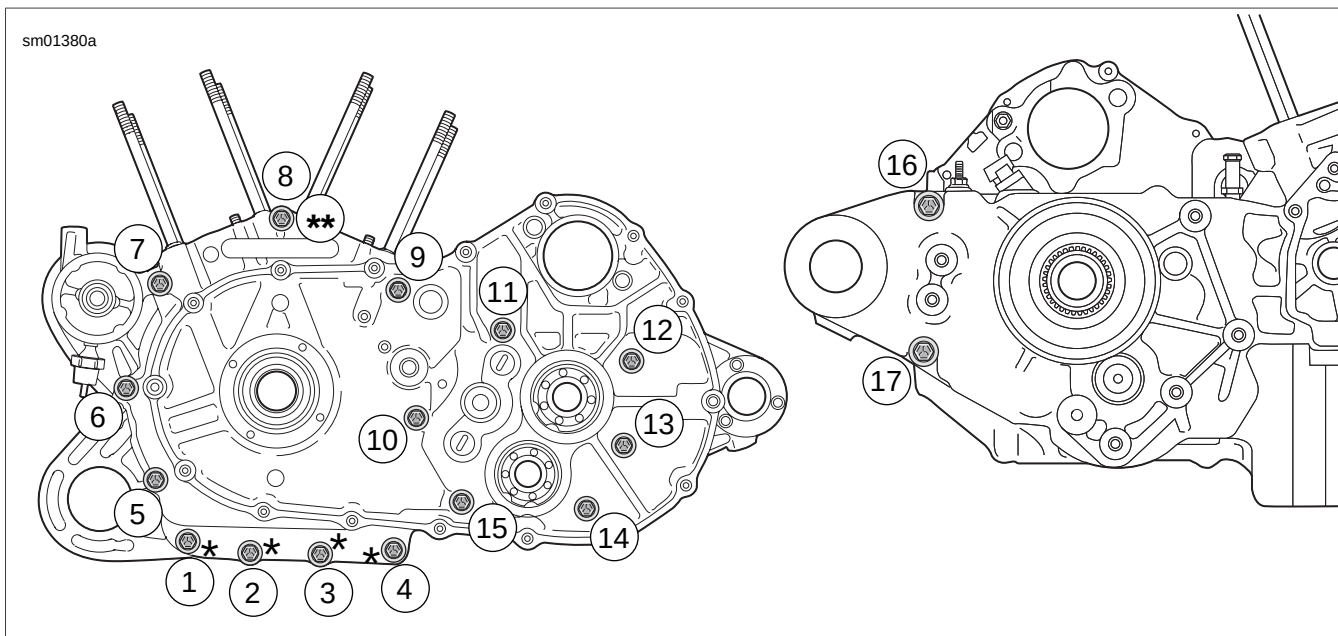

Figure 5-102. Crankcase Fastener Torque Sequence (* - Short Fasteners; ** - Double-ended Bolt: XR Models)
- e. See Figure 5-102. Apply several drops of LOCTITE 262 (red) to last few threads of each crankcase fastener and install fasteners in crankcase (insert eleven long and four short from left side, two long from right side), in locations shown.
- f. Tighten fasteners to 15-19 ft-lbs (20.3-25.8 Nm) in the sequence shown in Figure 5-102.